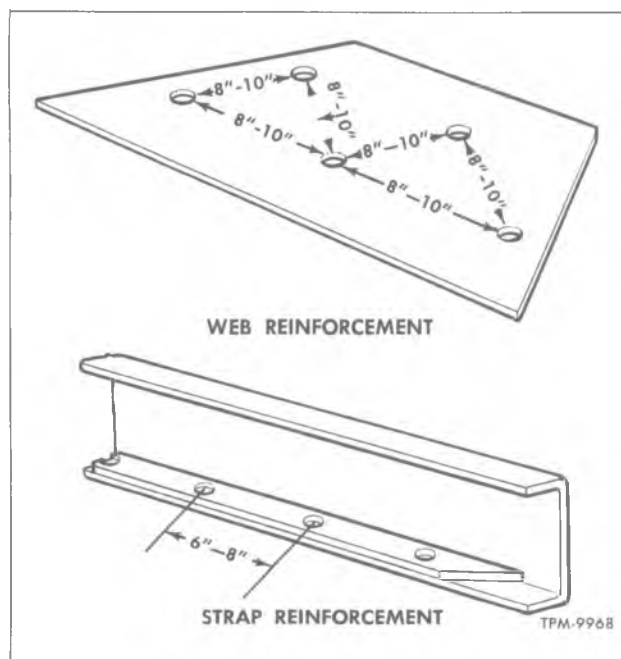

Figure 8—Plug Patterns of Strap Reinforcements
3. Plug welds may be used in a staggered 8 to 10 inch pattern when attaching reinforcements to the web section (fig. 8).